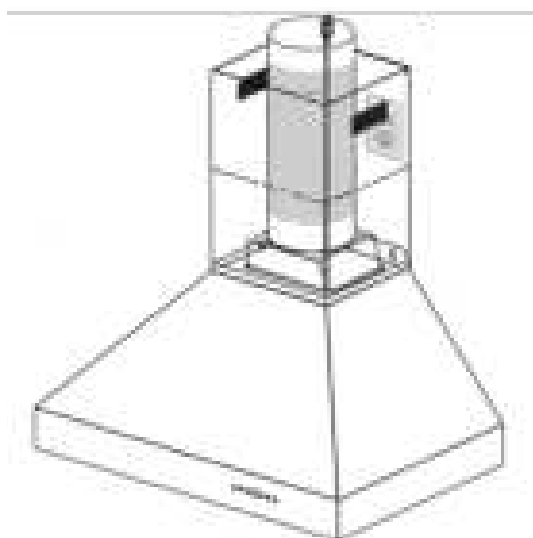

Figure 5
**NOTE:** Run the electrical cord up the chimney, outside of the ducting, and plug into a dedicated power outlet on the wall or in the attic. An outlet behind the chimney, to either the left or right, is ideal. *Figure 5, left*